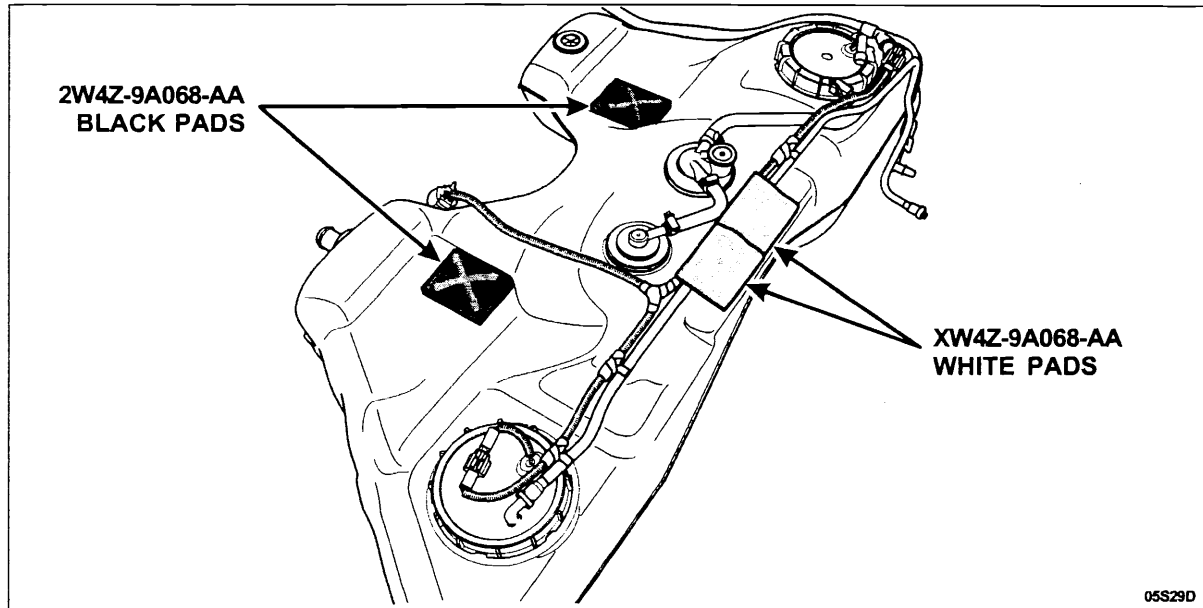

FIGURE 4
NOTE: Install two (2) white NVH foam pads (part number XW4Z-9A068-AA) over the evaporative emission tubes to insulate them from contacting the floor pan. Remove the paper backing and secure the **new** foam pads, using the original fuel tank as a guide. See Figure 4.
NOTE: Install two (2) black NVH foam pads (part number 2W4Z-9A068-AA) to each area on the top of the fuel tank. Remove the paper backing and secure the **new** foam pads, using the original fuel tank as a guide. See Figure 4.